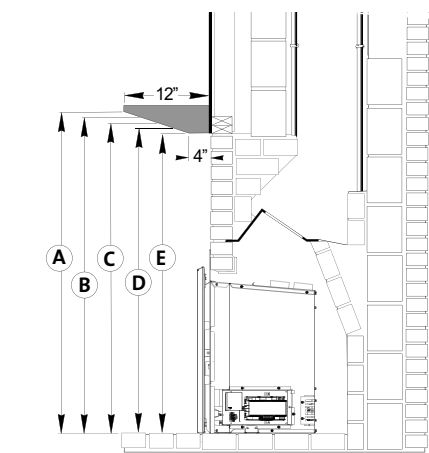

Figure 118. Mantel and ceiling clearances.
- F: Mantel Clearance from hearth: See fig. 118.